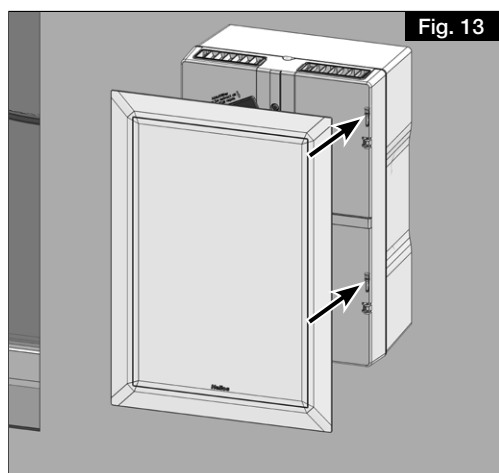
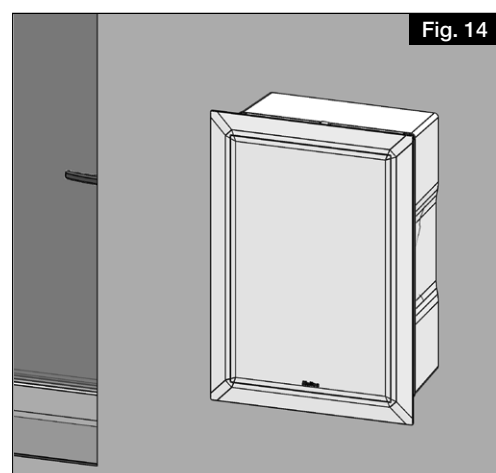

Fig. 13
Fig. 14
8. Attach the cover panel to the panel frame using the fixing clamps (see Fig. 13, Fig. 14). The fixing clamps are supplied in a plastic bag.